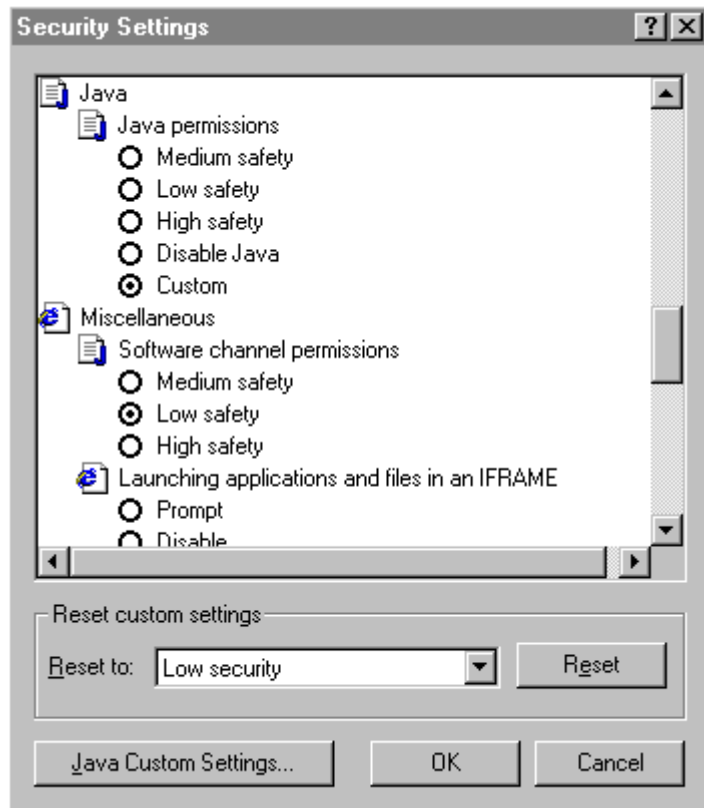

Figure A-12 Secure Settings Dialog Box
- 2 Click **Settings**. The **Security Settings** dialog box appears (shown in Figure A-12).